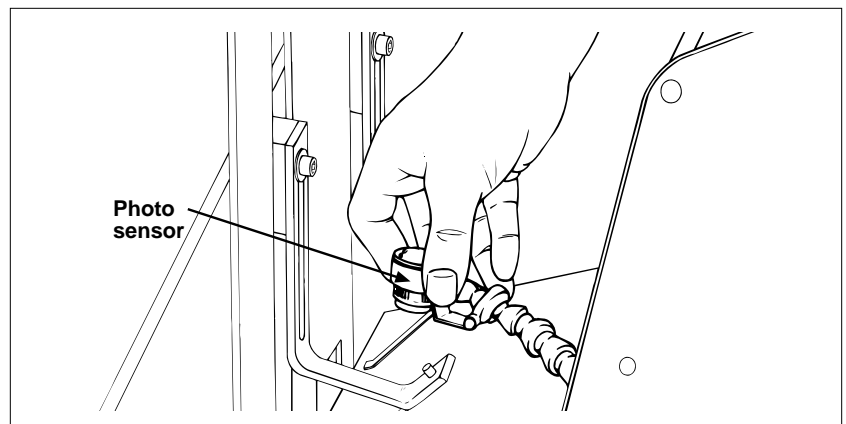

Figure 2-19. Initial Photo Sensor Adjustment
2. Next, adjust the sensor so it points exactly at the leading edge of material being held by the hold-down springs (Figure 2-19). *Use the flexible extension arm to maneuver the photo sensor into position for desired height and angle.*